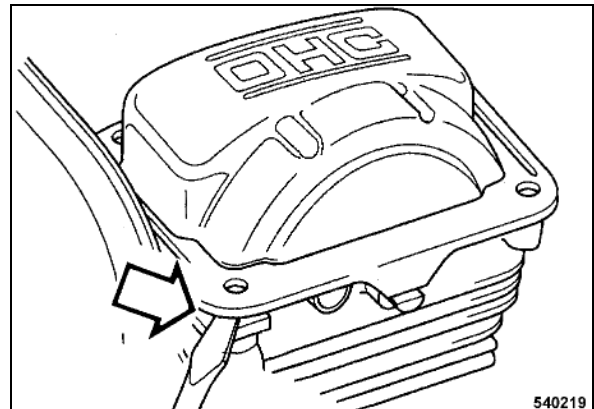

Fig. 45
- Insert the screwdriver into the recess (Fig. 45) and take the cylinder head cover carefully off.